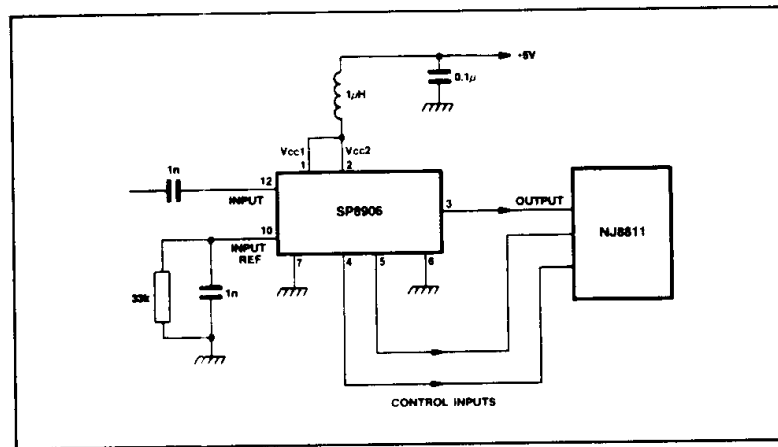

Fig.5 Typical application showing interfacing to NJ8811
2. If no signal is present the device will self-oscillate. If this is undesirable it may be prevented by connecting a 33k or greater between pin 10 and ground (pin 7), see Fig. 5.
7. The minimum input sinewave frequency can be improved by adding hysteresis (See Fig. 5) to reference inputs. Care must be taken not to apply too much hysteresis as
8. Under certain conditions, when the device is dynamically locked, an oscillation occurs which can be prevented by insertion of a 1 $\mu$ H RF choke in series with  $V_{cc1}$  and  $V_{cc2}$ . Under these conditions  $V_{cc1}$  and  $V_{cc2}$  pins should not be decoupled. See Fig. 5.